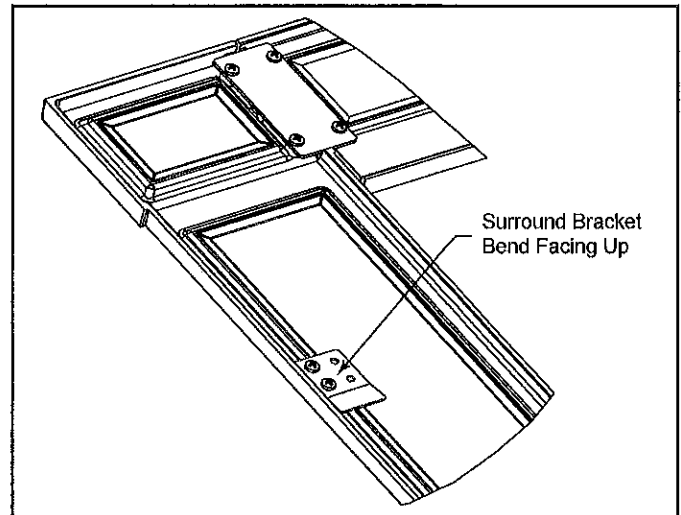

Figure 3
2. Install the two Surround Bracket as shown in (Figure 3)